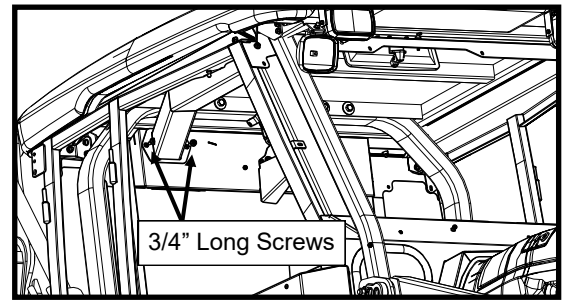

Figure 9.1: Heater Duct Rear Bolts
9.1 Fasten the rear of the heater duct to the rear panel (see Figure 9.1). Leave hardware loose.